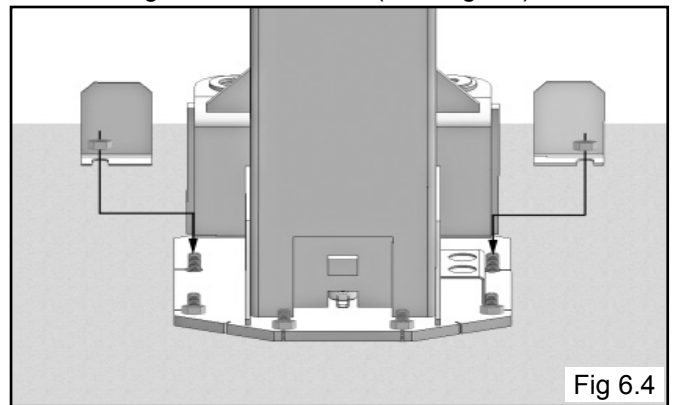

Fig 6.4
6. If installing the Optional Foot Guards, place foot guards on left and right side as shown. (See Fig 6.4)
7. With the shims and anchor bolts in place, tighten by securing the nut to the base then turning 3-5 full turns clockwise. **DO NOT** use an impact wrench for this procedure. (See Fig 6.4)